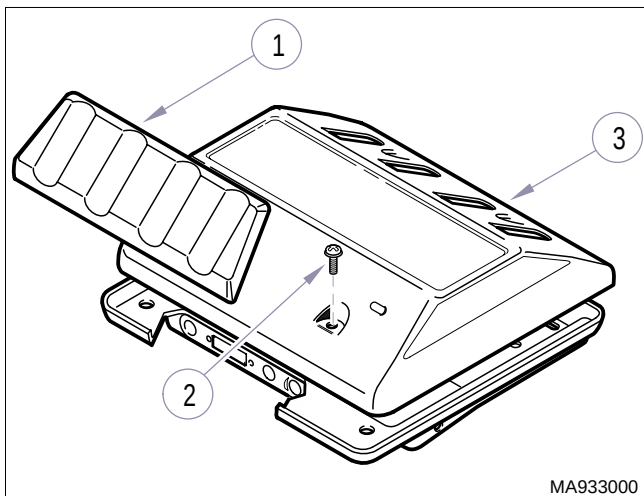

Figure 4-5. International Delivery Head Cover Removal
- (1) Disable unit for repair. (Refer to para 4.1).
- (2) Remove instrument pad (1, Figure 4-5). *[The instrument pad is pressure fit onto two studs; no tools are required].*
- (3) Remove four screws (2) and delivery head cover (3).